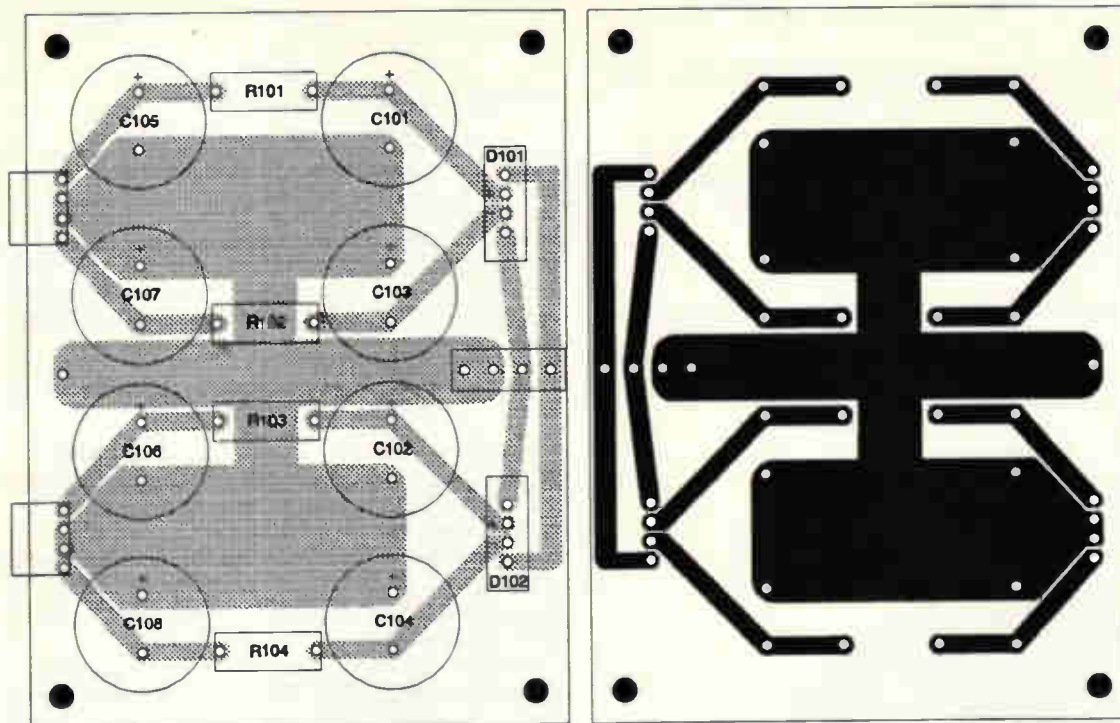

Fig. 2. Power-supply board parts placement (left) and PCB pattern (right).
**Fig. 2. Current drive principles.** In a), with infinite output impedance, current is independent of coil resistance and inductance (and back EMF). Figure 2b) shows how current drive can be achieved using a load-current sense resistor.